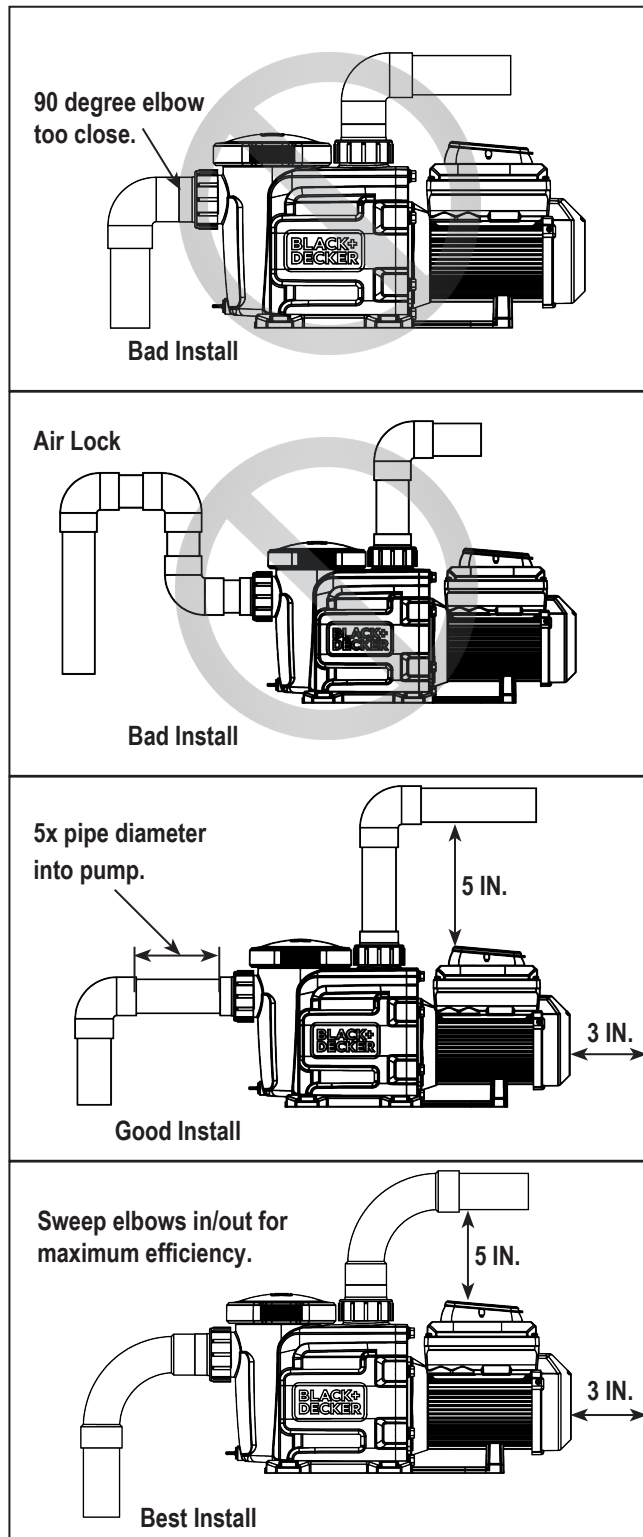

Figure 3
8. Install the pump with a rear clearance of at least 3 inches (7.6 cm) so that the motor can be removed easily for maintenance and repair. See Figure 3.
9. Leave a minimum of one (1) feet (30 cm) of clearance above the pump for removal of the strainer basket.
4. For most installations, always install a valve on both the pump suction and return lines so that the pump can be isolated during routine maintenance. However, we also recommend that a valve, elbow, or tee installed in the suction line should be no closer to the front of the pump than five (5) times the suction line diameter. See Figure 3.